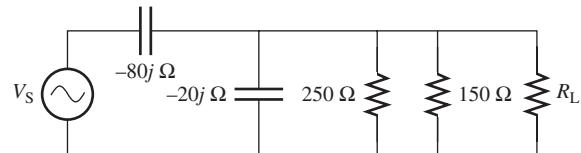

FIGURE P6.50 Circuit for Problem 6.50.
- 6.50** (B)* What are the Thévenin/Norton equivalent resistance observed by R_L for the circuit shown in Figure P6.50? Provide the answer to two decimal places.